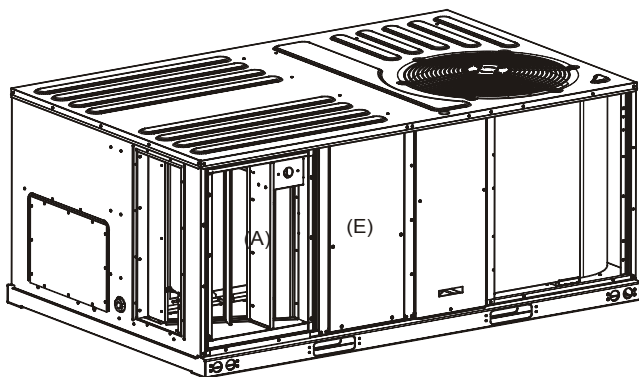

Figure 7
Secure Filter Access Panel (E) using 2 screws retained in **Step 2** and 2 self-tapping 10-16 x ½ screws provided with Economizer, as shown in **Figure 7**.